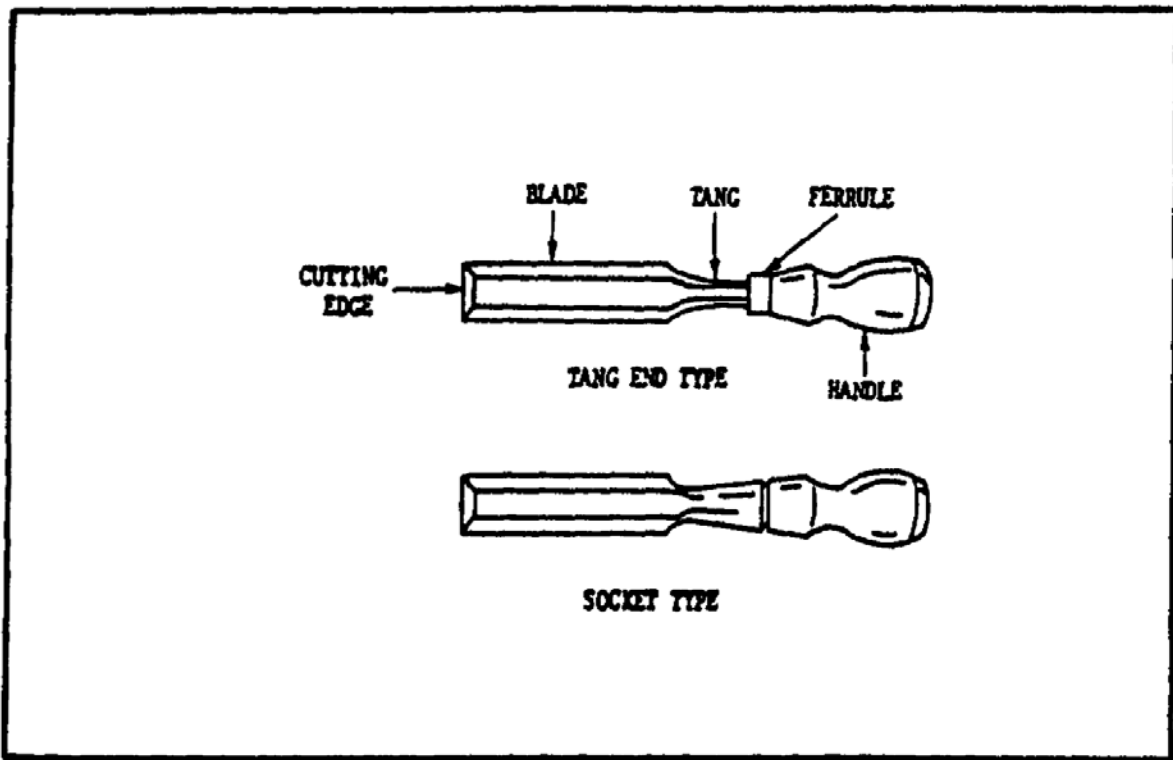

FIGURE 80. WOODWORKER'S CHISELS.
(1) *Woodworker's Chisels.* Woodworker's chisels (figure 80) are made in a variety of sizes ranging from a 1/8 inch blade width up to 2 inches wide, and with blade lengths from 2 to 6 inches long. Woodworker's chisels have a beveled cutting edge. The construction of woodworker's chisels is of either the socket type or the tang end type. The socket type has the blade and handle socket forged from one piece of high carbon steel. The end of the handle is inserted into the socket. The tang end type is also forged in one piece, but the handle is drilled and the tang is inserted into the handle, which is reinforced with a ferrule or metal band. The socket type is usually used for very heavy work where a hammer may be used to strike the hard end of the chisel handle. Tang-type chisels are usually lighter, have